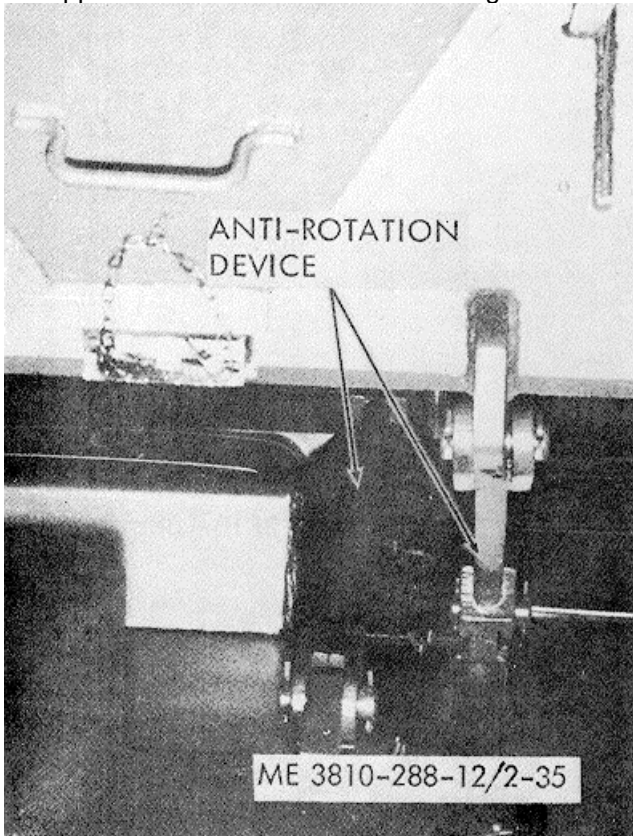

Figure 2-35. Anti-rotation device installed.
a. General. The truck crane can be transported readily, as it is mounted on its own carrier. Before moving the equipment, obtain information on road conditions and possible restrictions along the route due to clearances. Secure the crane cab by disengaging all clutches, setting all brakes, and installing the anti-rotation bars that brace the upper to the carrier frame. Refer to figure 2-35.
(1) Lower the boom to the boom cradle at the front of the carrier.
(2) Take up the slack in the boom hoist line so that the boom is supported by the boom hoist line just above the boom cradle. Set the boom hoist drum pawls (sec III).
(3) Make certain that the swing lock is set. Refer to figure 2-36. Connect the anti-rotation device rods. See figure 2-35.
(4) Secure the hook block to the underside of the boom and take up the slack in the hoist line.
(1) Swing the crane, with the dipper extended, until the boom is in line with the boom cradle. Engage the swing lock, and install the anti-rotation device rods (fig. 2-35).
(2) Lower the boom until it is approximately six inches above the boom cradle. Keep the boom hoist cable tight.
(3) Use a length of cable to snub the dipper stick to the carrier towing hooks. Draw this cable as tight as possible. Take slack out of all cables supporting the front end.